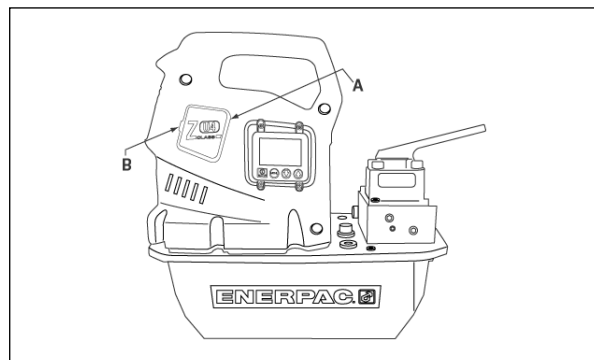

Figure 11, Brush Cap Removal
2. Remove both brush caps (A) by deflecting the brush cap latch (B) and gently prying outward (see Figure 11).